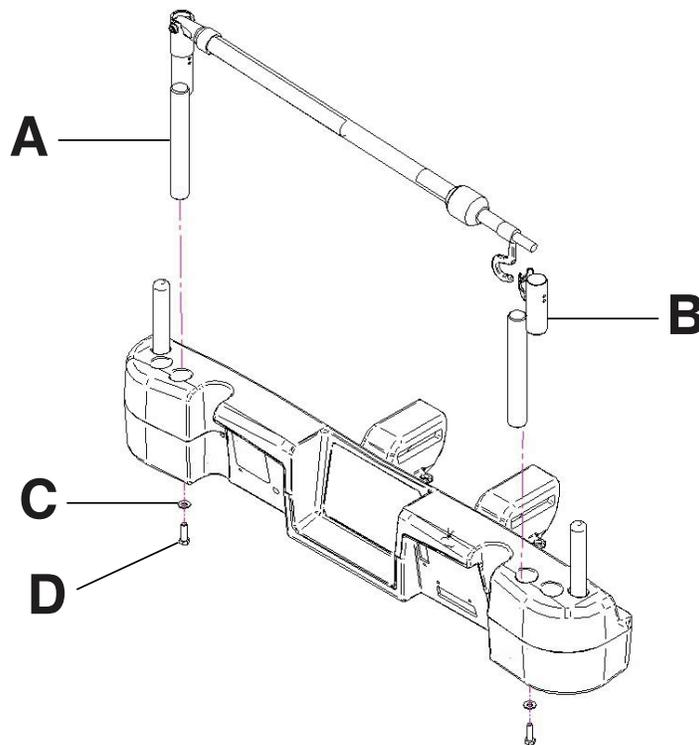

Figure 80: Single two stage IV pole (Left side shown)
1. Using a 3/8 in. drive ratchet and a 1/2 in. socket, install one washer (C) and one bolt (D) to secure the IV pole to the socket at the head end of the product (A) (Figure 80 on page 91).
2. Using a 3/8 in. drive ratchet and a 1/2 in. socket, install one washer (C) and one bolt (D) to secure the IV pole support into the socket at the head end of the product (B) (Figure 80 on page 91).